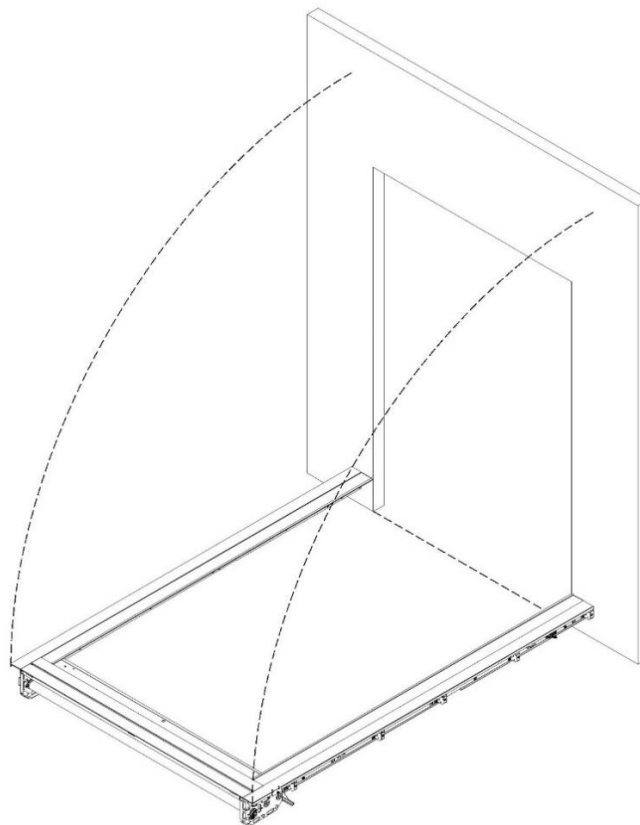

Figure 6: Standing RS500 WIC Door
2. Slowly lift the head unit and walk the door up to the upright position as shown in Figure 6.